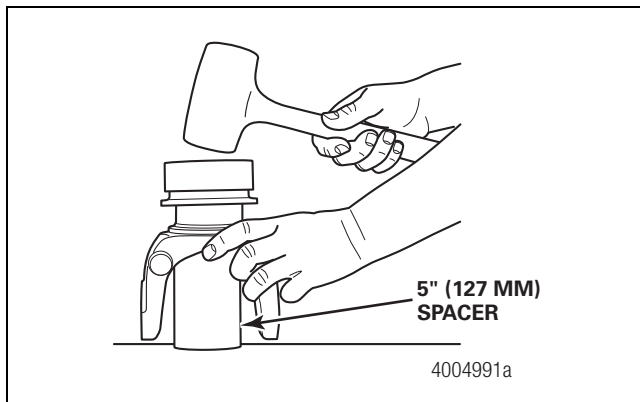

Figure 6.36
- **If you do not have a press:** Position the yoke on a five-inch (127 mm) spacer on a workbench. Use a dead-blow hammer and the appropriate driver to install the sleeve into the yoke. Figure 6.36.